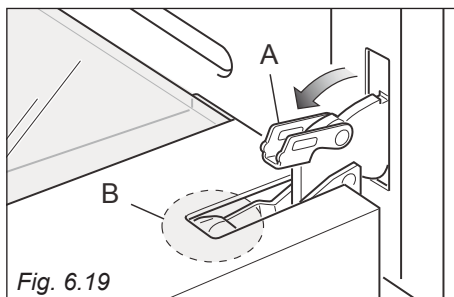

Fig. 6.19
- Fully open the lever "A" on the left and right hinges. (fig. 6.19).
- Gently close the door until left and right hinge levers "A" are hooked to part "B" of the door (figs. 6.19, 6.20).